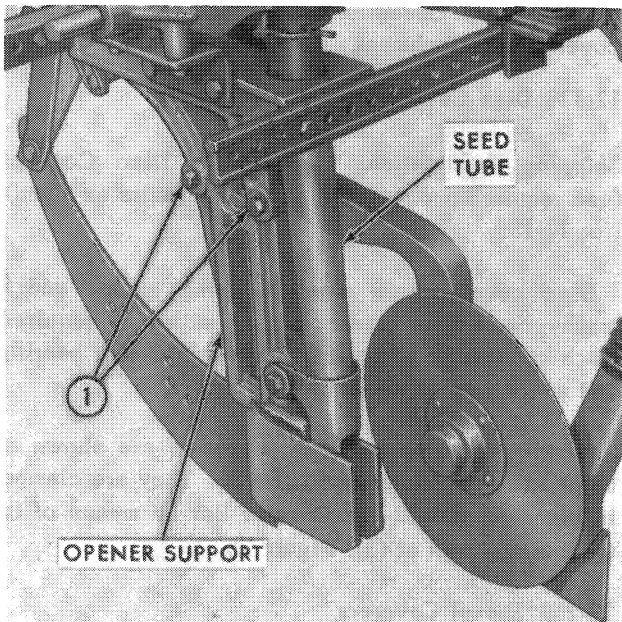

Figure 23
and fertilizer openers. Use the rear set of holes when coverer bar or seed press wheel attachments are used. Figure 23 shows one of the discs in position with the bolts in place at (1).